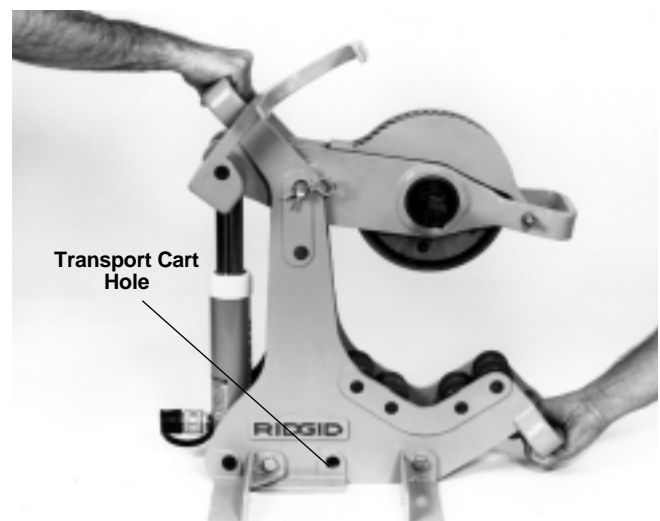

Figure 14 – Hand-holds for Transporting
- 1. The 258 and 258XL are designed with hand-holds located at top rear, and bottom of frame front, for transporting the cutter (Figure 14). Do not use pivot arm handle to transport, as it may cause damage to the hydraulic cylinder.
A two wheeled cart is available as an accessory to allow for easier transporting. This transport cart, (see catalog for ordering information), is compatible with the 258 (2 1/2" – 8") as well as the 258XL (8" – 12"). By using a "J" clamp on the top frame handle along with a hitch pin through a frame hole (Figure 14), the transport cart can easily be installed.